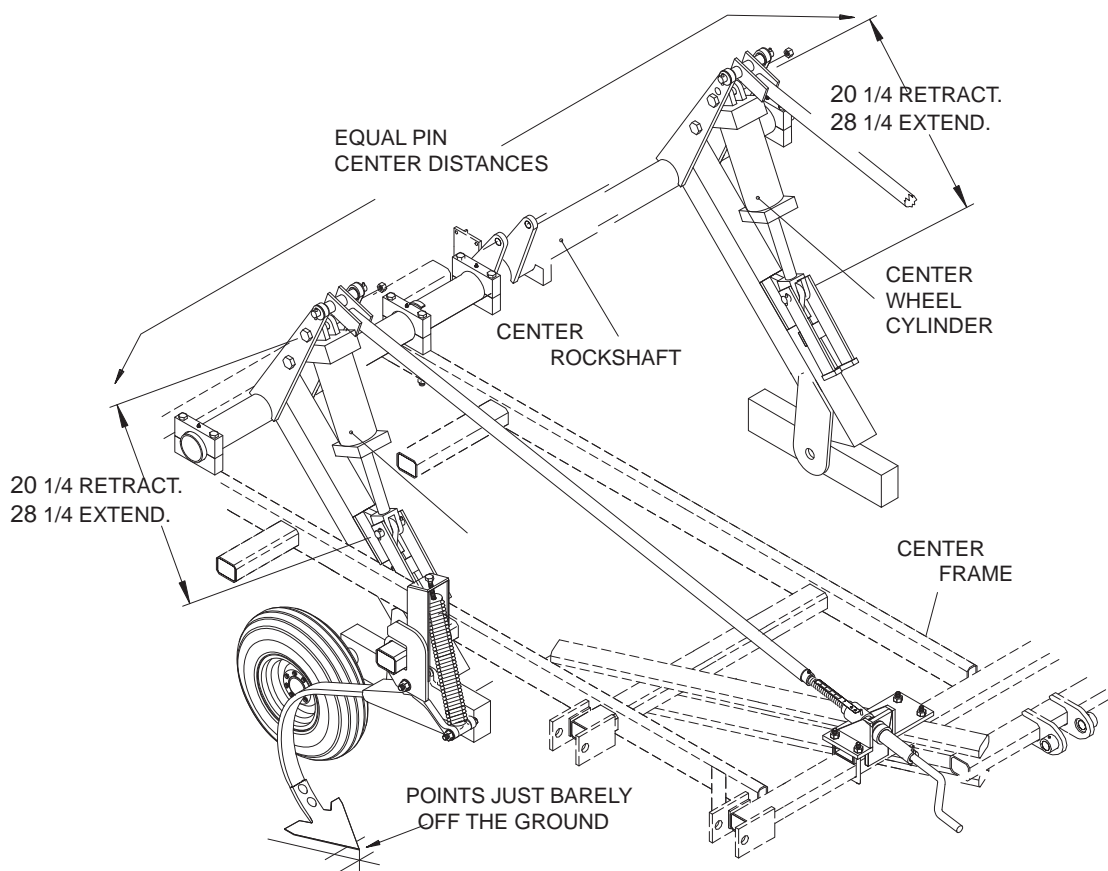

FIGURE 3
3. **Measure the pin center distances of the wheel cylinders(See figure 3):**